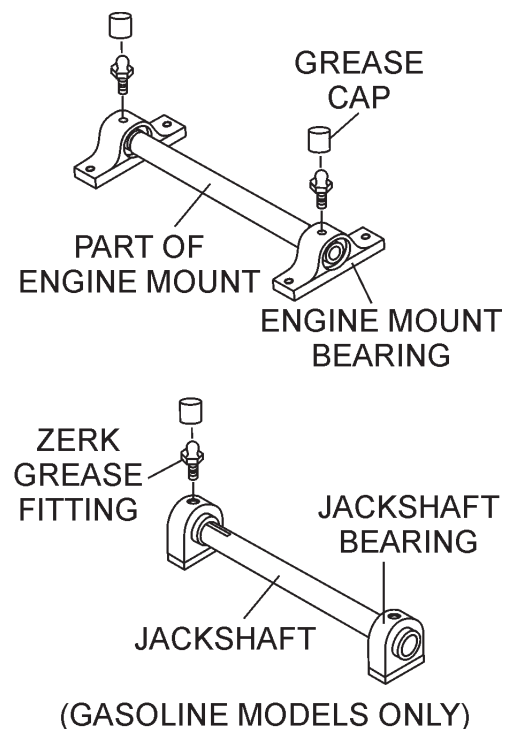

Figure 27. Zerk Fittings (Lubrication)
There are two (2) grease points (Figure 27) for the MP2 (Electric Motors) and four (4) grease points for the MP2 (Gasoline Engine). Use only Premium Lithium 12 based Grease, conforming to NLG1 Grade #1 consistency. Grease *daily*.